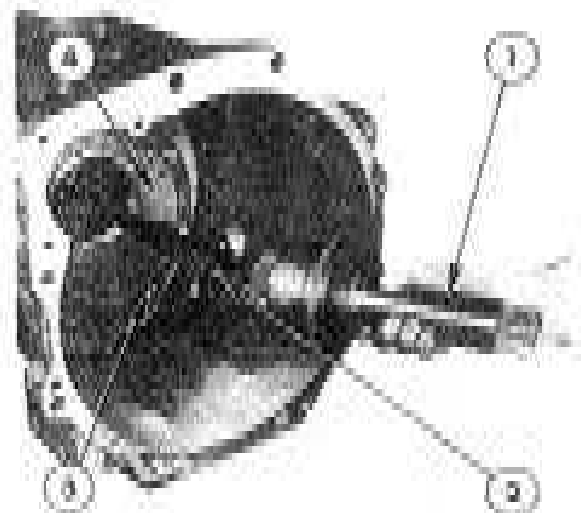

Figure 11
5. Remove the clutch release bearing hub support retaining bolts and remove the hub support, Figure 11.